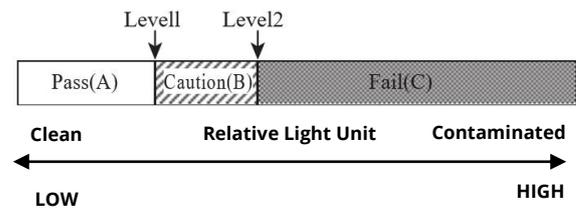

Fig. 3: Setting Benchmark Level for Cleanliness Level Control
Benchmark levels 1 and 2 are set to determine whether cleanliness levels are at acceptable levels or not (see Fig. 3). Cleanliness levels are designated as Pass (A) if the measured amount of luminescence falls below level